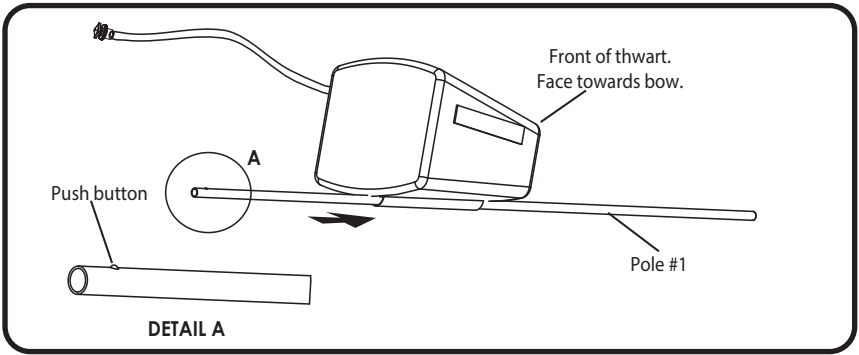

Figure 4
- 4) Once the poles are assembled and the floor is installed, begin by inserting pole #1 into the sleeve on the bottom of the front thwart (leave deflated) making sure that the numbered end of the pole is at the back end of the front thwart. **See Figure 4.**